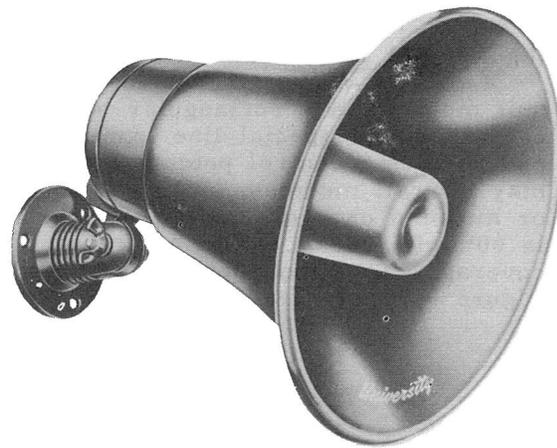

Figure 52 - University IB8 Loudspeaker
3.68 Horn-Type Loudspeakers - A low noise level area can be defined crudely as an area in which normal conversation can be carried on between two people by raising their voices. Technically it can be defined as an area where the sound intensity is below 85 db. Two horn-type loudspeakers found suitable for installation in low noise level or moderate noise level areas are the University IB8 and the DuKane 5A105. These speakers are shown in Figures 52 and 53.